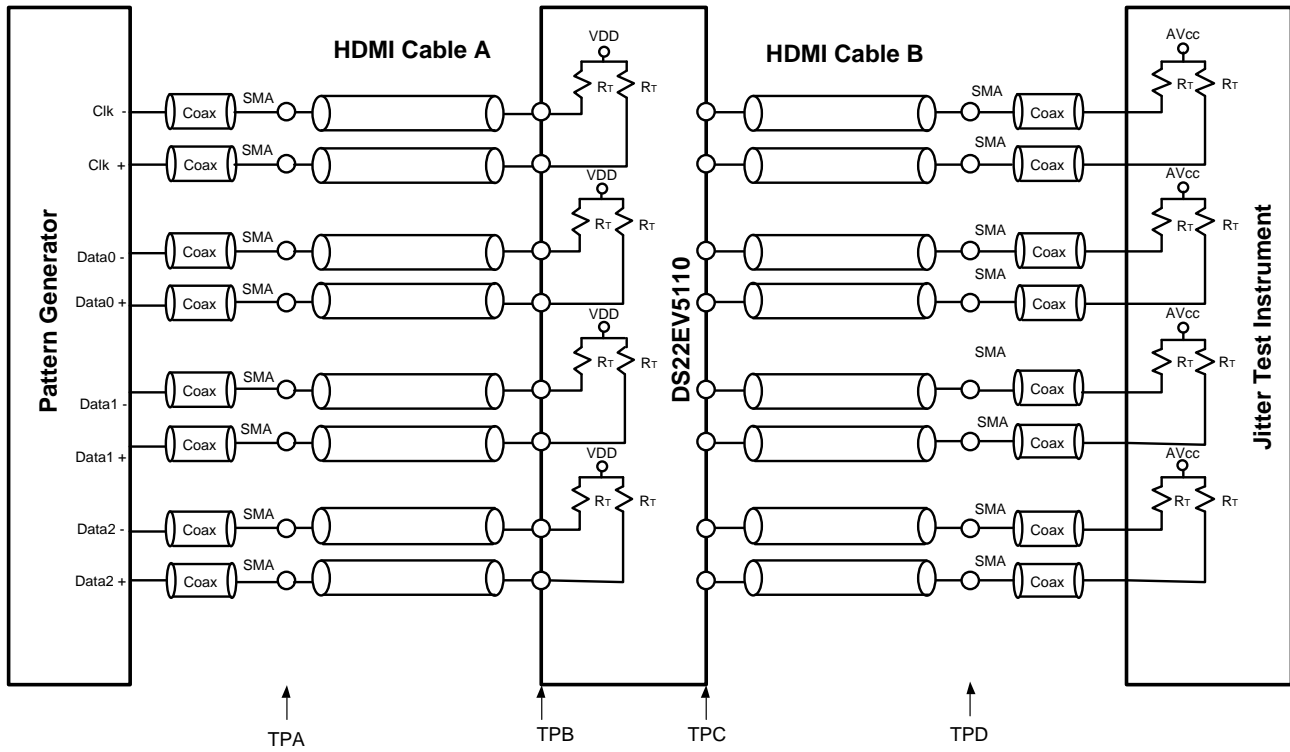

Figure 1. Test Setup Diagram
| VTX | Input Voltage Swing (Launch Amplitude) | Measured differentially at TPA, Figure 1 ⁽²⁾ | 800 | 1000 | 1560 | mVp-p |
| VICMDC | Input Common-Mode Voltage | DC-Coupled requirement Measured at TPB, VINmin=800mV, VINmax=1200mV, Figure 1 | $V_{DD}-0.3$ | | $V_{DD}-0.2$ | V |
| VIN | Input Voltage Sensitivity | Measured differentially at TPB, Figure 1 2.25 Gbps, Clock Pattern | 150 | | 1560 | mVp-p |
| TROJ1 | Total Output Jitter 0.25 Gbps | Data Paths, measured at TPC PRBS7, EQ [2:0] = 000 Figure 1 ⁽³⁾⁽⁴⁾⁽⁵⁾ | | 0.03 | 0.05 | Ulp-p |
| TROJ2 | Total Output Jitter 1.65 Gbps | Data Paths, measured at TPC PRBS7, EQ [2:0] = 000 Figure 1 ⁽³⁾⁽⁴⁾⁽⁵⁾ | | 0.08 | 0.14 | Ulp-p |
| TROJ3 | Total Output Jitter 2.25 Gbps | Data Paths, measured at TPC PRBS7, EQ [2:0] = 000 Figure 1 ⁽³⁾⁽⁴⁾⁽⁵⁾ | | 0.09 | 0.16 | Ulp-p |
| TROJ4 | Total Output Jitter 25 MHz | Clock Path, measured at TPC Figure 1 ⁽³⁾⁽⁴⁾⁽⁵⁾ | | 0.03 | 0.045 | Ulp-p |
| TROJ5 | Total Output Jitter 165 MHz | Clock Path, measured at TPC Figure 1 ⁽³⁾⁽⁴⁾⁽⁵⁾ | | 0.07 | 0.13 | Ulp-p |
| TROJ6 | Total Output Jitter 225 MHz | Clock Path, measured at TPC Figure 1 ⁽³⁾⁽⁴⁾⁽⁵⁾ | | 0.08 | 0.135 | Ulp-p |
- (3) Parameter is specified by statistical analysis and/or design.
(4) Deterministic jitter is measured at the differential outputs (TPC of Figure 1), minus the deterministic jitter before the test channel (TPA of Figure 1). Random jitter is removed through the use of averaging or similar means.
(5) Total Jitter is defined as peak-to-peak deterministic jitter from + 12 times random jitter (ps).
(6) Random jitter contributed by the equalizer is defined as $\text{sq rt}(J_{\text{OUT}}^2 - J_{\text{IN}}^2)$. J_{OUT} is the random jitter at equalizer outputs in ps-rms, see TPC of Figure 1; J_{IN} is the random jitter at the input of the equalizer in ps-rms, see TPA of Figure 1.